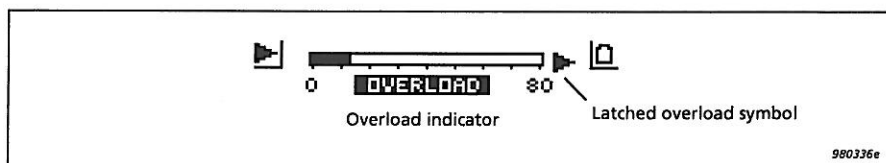

Fig. 2.5 Overload indicators
- b. *The upper end of the measurement range (in dB) and overload indicator:* Peaks above this level will trigger an “OVERLOAD” indication that will appear under the bar graph, see Fig. 2.5. If an overload has occurred in the last one second, this indication will stay for the next second. This indication will appear both in pause mode and in measurement mode. If an overload occurs during a measurement in progress, a “latched overload” symbol will appear to the right of the bar graph, see Fig. 2.5. The latched overload remains until the measurement is reset, also if the measurement is paused. To change the measurement range, press .